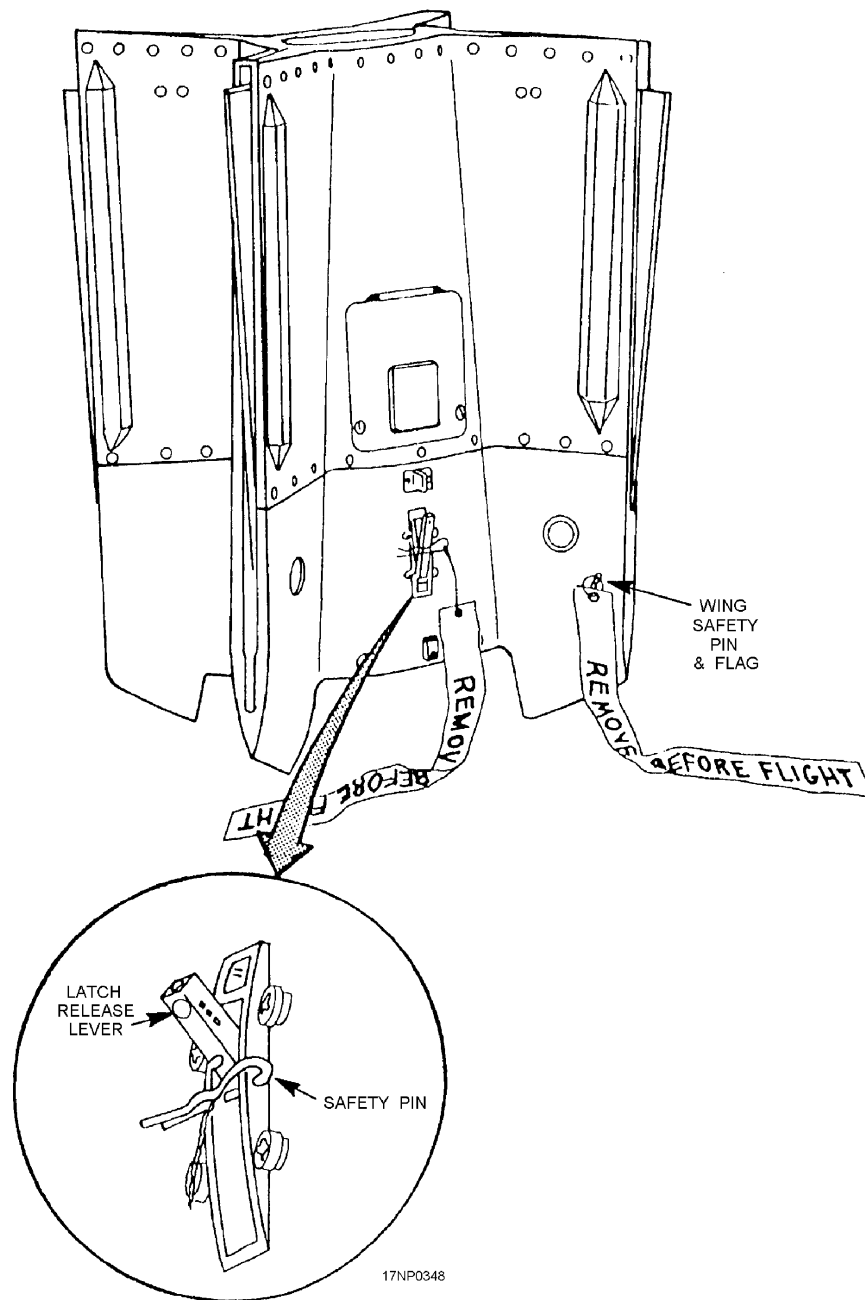

Figure 13-16.—Wing assembly.
1. Ensure safety pins are securely installed in latch release lever and collar assembly (fig. 13-16).